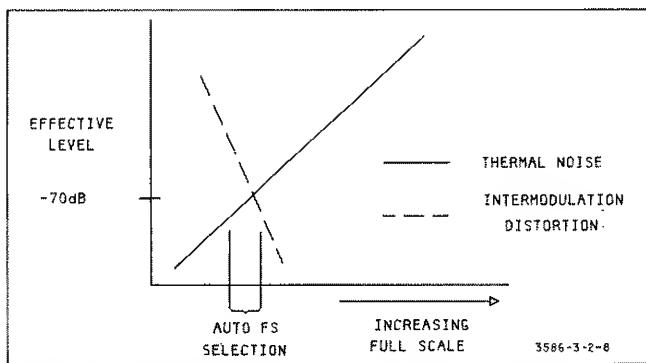

Figure 3-2-8. Relationship Between Thermal Noise, Intermodulation Distortion and Full Scale Selection In The 3586A/B.
**3-2-72. AUTOMATIC.** This is the principal Full Scale operating mode of the instrument. As previously stated, when it is in this mode, the -hp- 3586A/B/C will configure itself for the best signal to noise obtainable without overloading. The noise referred to in this statement is not just thermal noise, but also includes intermodulation distortion products and spurious signals produced by the local oscillator. The amplitude of the thermal noise and the intermodulation distortion vary oppositely with respect to the full scale level. For example, reducing the full scale level with respect to a fixed input signal level effectively reduces the thermal noise and increases the intermodulation distortion. This relationship is illustrated in Figure 3-2-8. At a certain full scale level, the thermal noise and the intermodulation distortion are equal. In this instrument both are more than 70dB below the maximum input power when this happens. Note that the spurious signals caused by the local oscillator are even lower and do not vary with full scale. This is the full scale level selected by the instrument when it is in Automatic. It is the full scale level that gives the wide *reliable* dynamic range. No matter what the tuned frequency and no matter what the composition of the input signal when the instrument is in Automatic Full Scale, the operator can be certain that all noise is more than 70dB below maximum input power. Because of this and since full scale information is not needed when making measurements, the operator can generally ignore the full scale level once he has selected AUTO. Use AUTOMATIC full scale unless you need the specific advantages of the Entry mode.